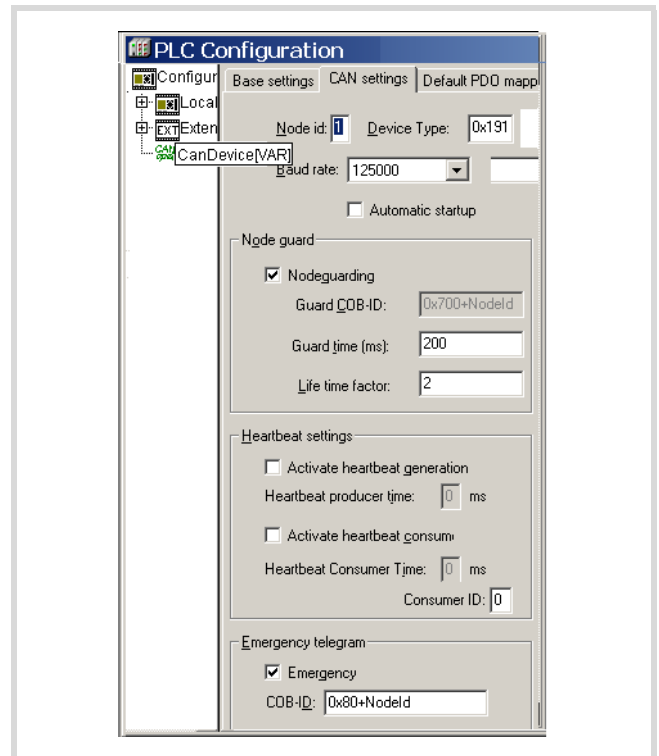

Figure 87: CAN device parameters
- One ID for basic communication: The ID for basic communication and the CAN baud rate are defined in the Can settings folder as shown in figure 87.